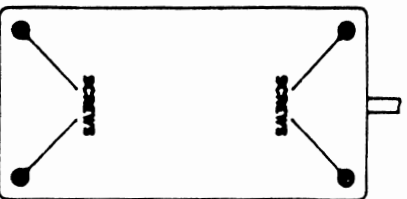
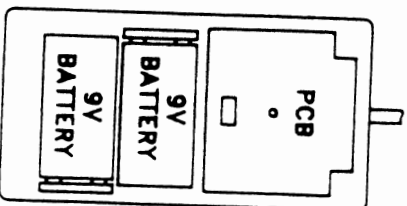

Fig. 3
Fig. 4
- (1) Loose the Bottom Case cover screws (Refer Fig. 3), take the front cover away from the instrument.
- (2) Remove the old batteries & replace the two new 9V batteries(006 P).
- (3) Refer Fig. 4, to make sure the battery is installed to the right position & connected to the proper polarization with the battery snap.
- (4) Make sure that the whole case is scoured with the screws after changing the batteries.